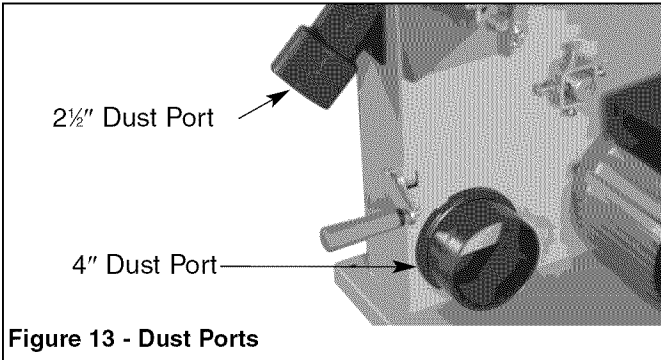

Figure 13 - Dust Ports
- The band saw has a 2½" dust port and 4" dust port included (see Figure 13). It is recommended that when in use, the band saw is connected to a suitable dust collector.